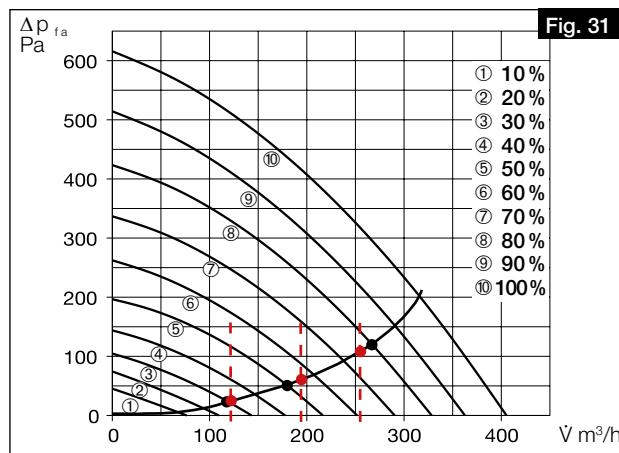

Fig. 31
- Enter the flow rates from the design calculation for the three ventilation profiles "At home", "Away" and "Boost" in the unit characteristic curve for supply and extract air (cf. Fig. 31).
① We recommend entering the following values in the ventilation profiles:
- The approximate fan powers to be set (in %) can be read from the ventilation profiles at the points of intersection of the flow rates and the system characteristic curve (cf. Fig. 31). Enter these in the corresponding ventilation profile via the easyControls software or the control element KWL-BE Touch (cf. Fig. 32).